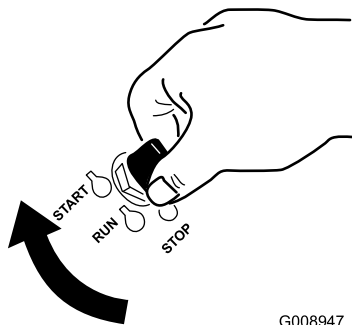

Figure 22
1. Turn the ignition key to the START position (Figure 22).